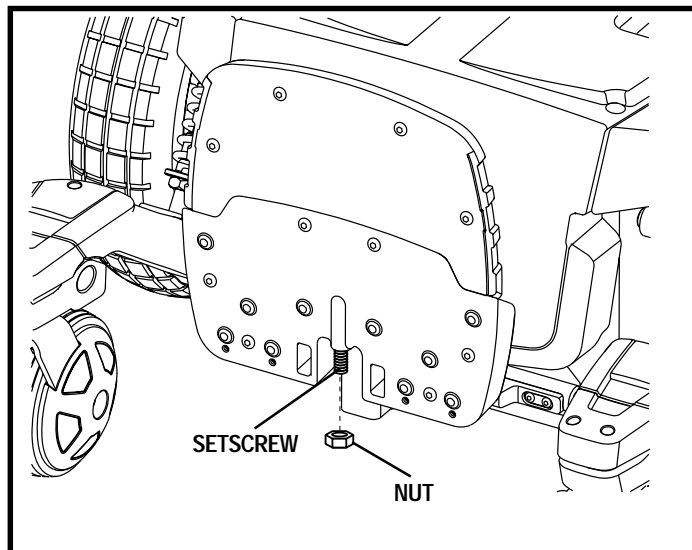

Figure 20. Underside of Foot Platform
1. Flip up the foot platform and locate the setscrew. See figure 20.